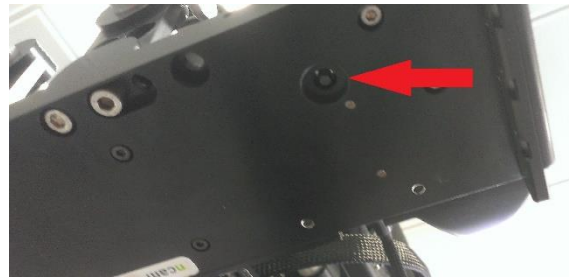

Figure 1
- On the underside of the camera bar, to the rear of the left witness, is a small button (Fig 1). **Press** once. This will put the system into *homing* mode (pictured)